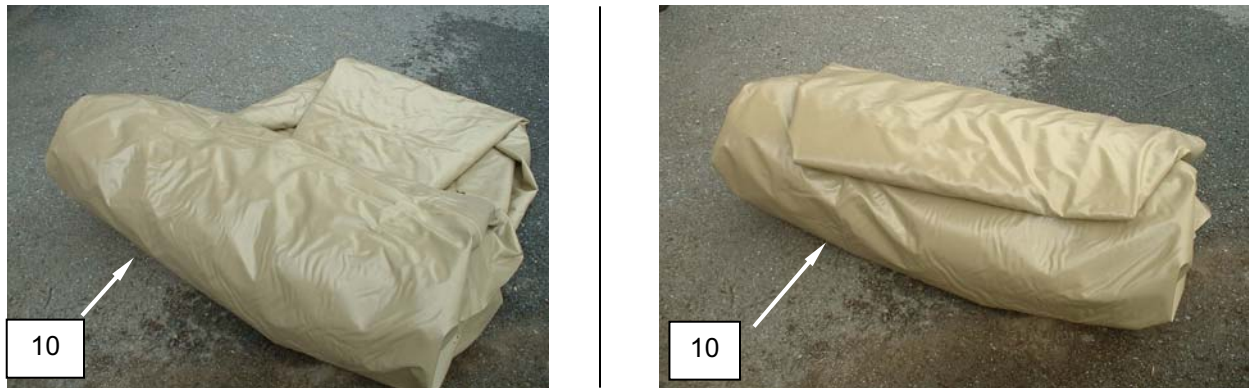

Figure 9. Prepare the 3000 Supply Water Tank for Movement.
19. Roll the tank and ground cloth (Figure 9, Item 10) into a 2-ft by 4-ft cylinder.